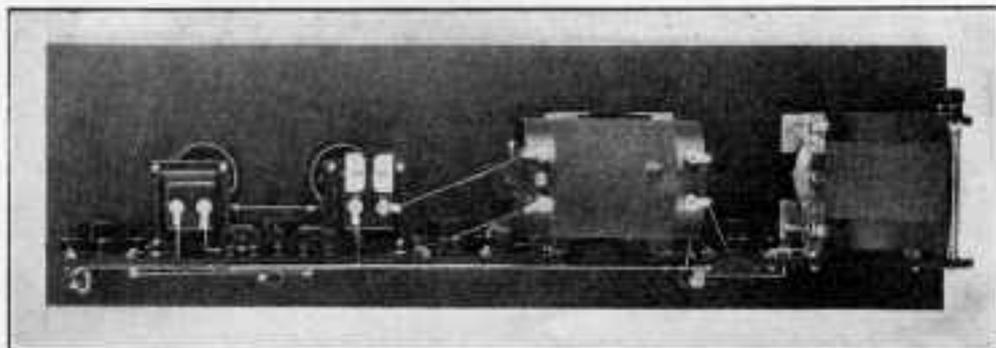

Fig. 3. The rear view. Note the arrangement of the transformers and the Micadon mounting.
7. Solder soldering lugs to the lugs furnished on the Dubilier condenser and have them pointing down so as to slip over the primary terminals on the right hand audio transformer. The arrangement can be seen in Fig. 3. This condenser is of 0.0005 mfd. Eight mounting legs are supplied with the Browning-Drake kit. The vertical part of each leg has two holes. Fasten the long parts of